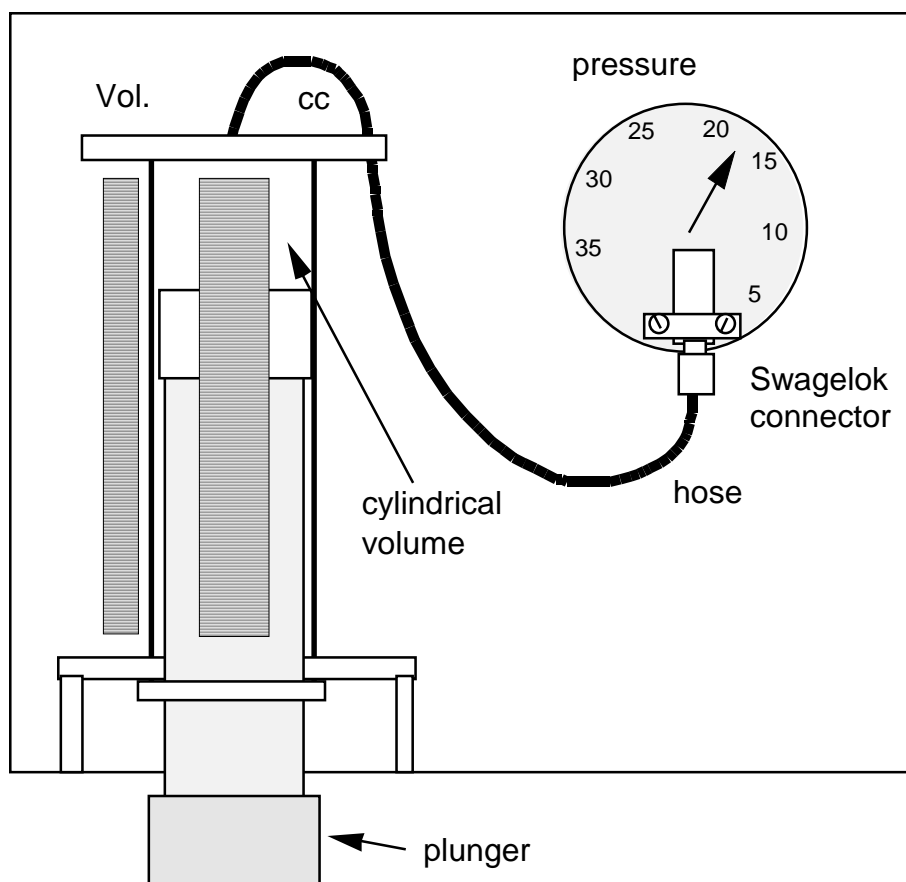

Figure VII.1 Boyle's Law Apparatus.
2. Check that the hose is securely connected to the gauge and cylindrical volume, see Figure VII.1. Check with your instructor if you do not know how to disconnect the Swagelok airline connector.